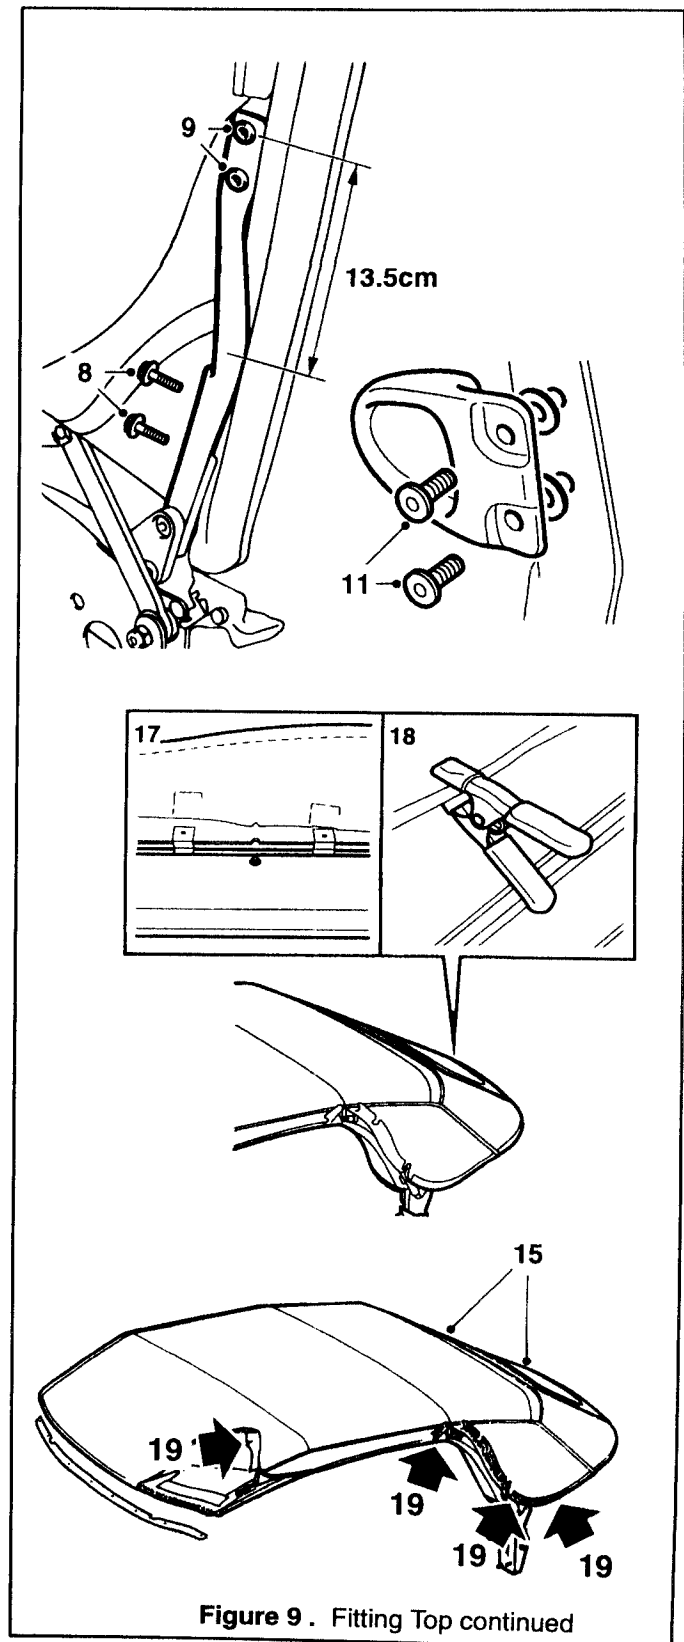

Figure 9 . Fitting Top continued
8. Remove the lower screws from the toothed segment's link for the fifth bow. See Figure 9.
9. Back off the two upper screws a few turns and insert a screwdriver between the fifth bow and the link so that it bends outwards. See Figure 9.
11. Screw the stop plates into position as shown. See Figure 9.
16. Place the top cover in position on the top frame. Make sure the top fabric fits around the fifth bow and around the rear rail's corners. See Figure 9.
19. Make cuts in the cloth lip that is to be glued so that it fits better on the frame at the lower edge of the 4th bow and lower edge of the rear side rail. Use the frame as a template and make the cuts as shown. See Figure 9.